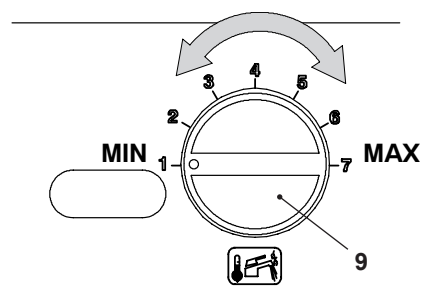

Figure 15.14
- Turn the hot water temperature adjustment knob 8 in Figure 15.14 to the minimum, the following will appear on the LCD display (the sequence **P09** alternates with **01**).